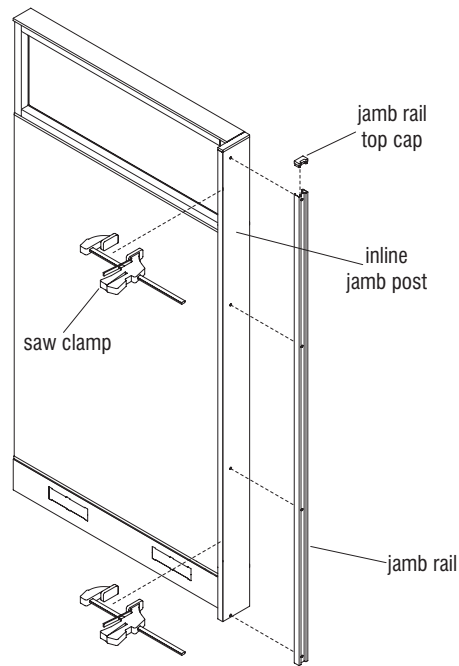

Figure 10
3. Next, locate a jamb rail and make sure a top cap is inserted to the top of the rail. Then position jamb rail against the installed inline jamb post as illustrated. Align the jamb rail top cap height with the inline jamb post top cap height and ensure that the jamb rail is aligned flush to the jamb post at the side, from top to bottom. Using two clamps as illustrated, securely clamp the rail to the post (Figures 10 & 11, Detail G).